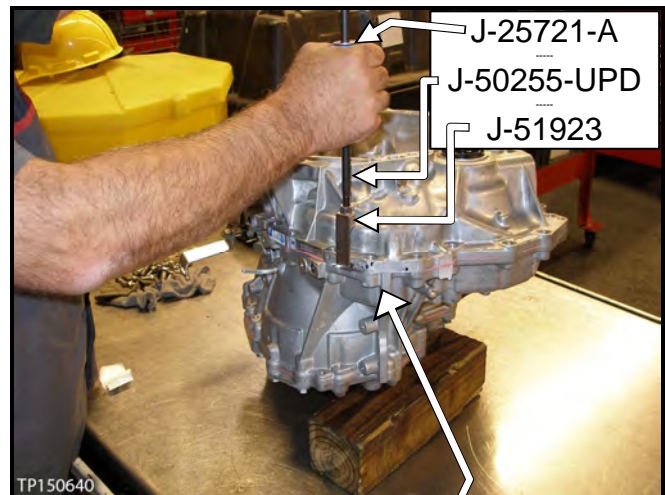

Figure 3
- Use Slide Hammer J-25721-A and Slide Hammer Bolt J-50255-UPD with J-Hook J-51923 at the cutout areas similar to the one shown in Figure 3 and 4.